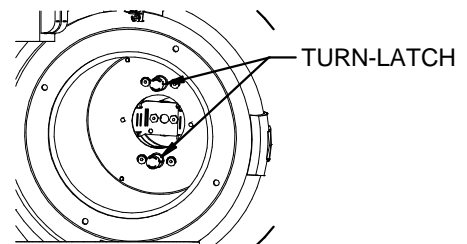

FIG. 2-2
3. REMOVE SOCKET ASSEMBLY BY TURNING TURN-LATCH COUNTER CLOCKWISE. (FIG. 2-2)